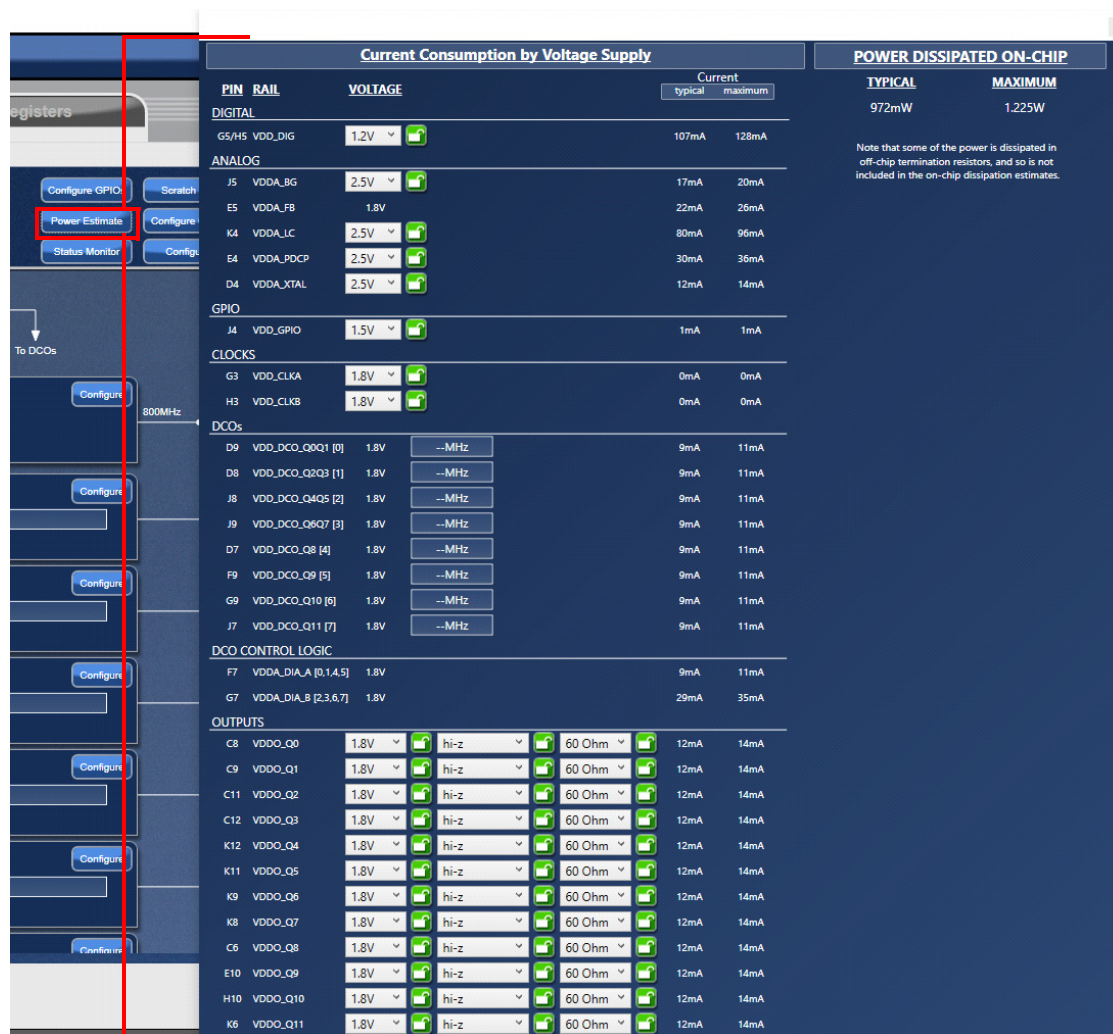

Figure 19. Power Estimate Window
- Power (current) calculator exists in the GUI to help estimate the power (see Figure 19)